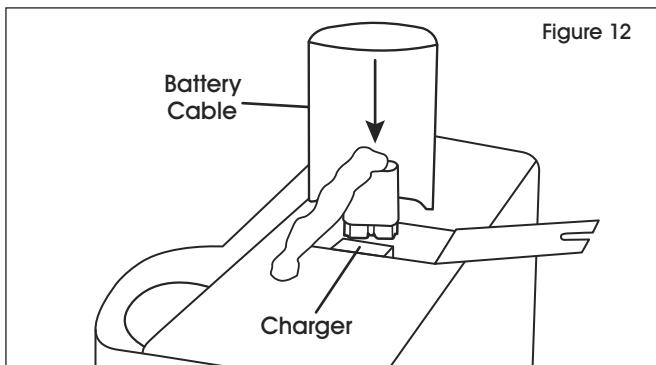

Figure 12
4. Connect red battery cable to charger. (See Figure 12)